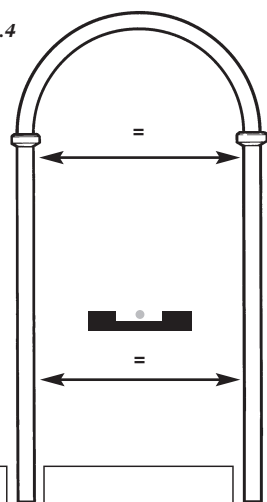

Fig.5
8. Stand the assembly up and lower it into the prepared holes (Fig.5).